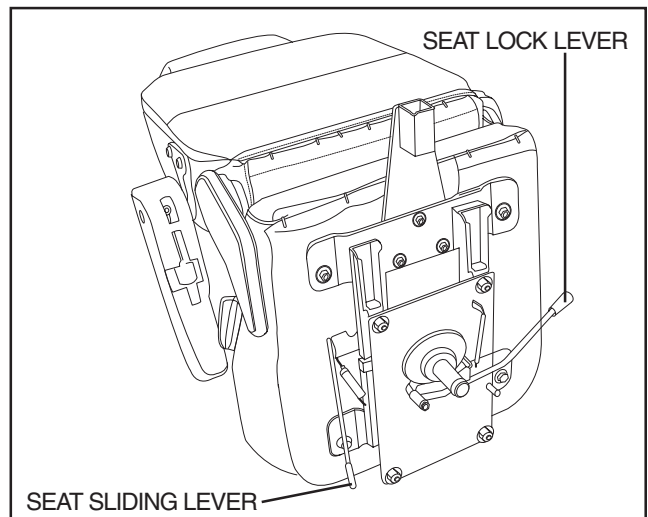

Figure 12. Seat Adjustment
1. Push forward on the seat lock lever to unlock the seat. See figure 12.
You can reposition the scooter's seat forward or rearward to adjust the distance between the seat and the tiller. See figure 12.